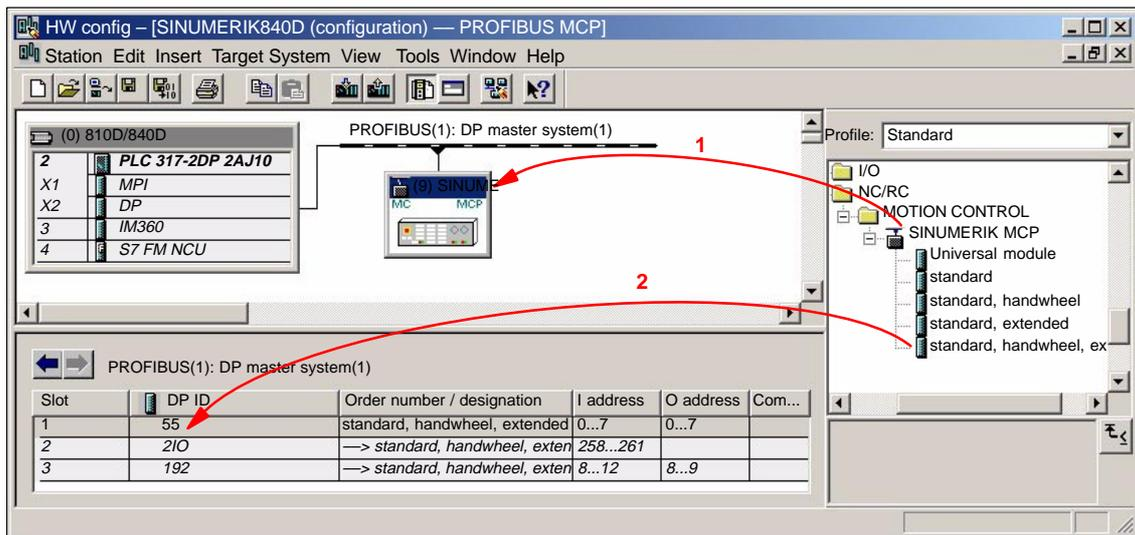

Fig. 8-19 Configuration with DP slave: MCP 483
This chapter describes the configuration of a DP slave: MCP 483 by way of example of the hardware configuration of a SIMATIC S7 project shown in Fig. 8-19.
1. Insert DP slave: MCP 1,226.82 cm the configuration (see Fig. 8-19, Page 8-249: 1)
3. Insert the modules in DP slave: MCP 483 for the functions required. (see Fig. 8-19, Page 8-249: 2)